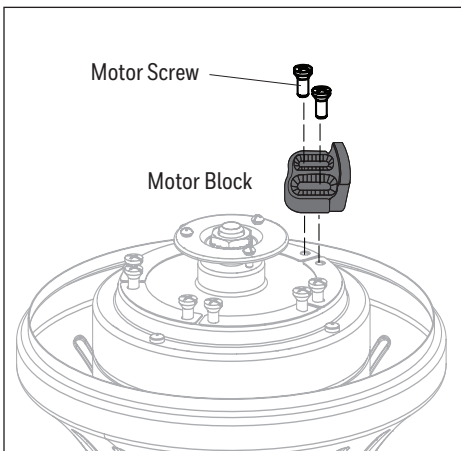

Figure 2.1
1. Remove the ten motor screws and five motor blocks from the underside of the motor. Discard the motor blocks but save the motor screws for blade arm installation (Figure 2.1).